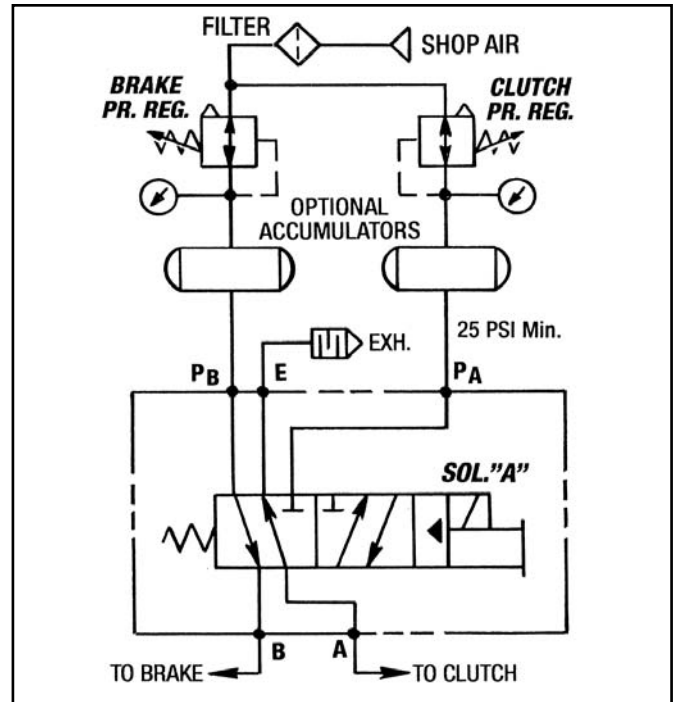

Figure 4 - 2PI-3/8 Control Valve with External Regulators
3. The optional accumulators should be used for quick response, particularly if the air line loss and the nature of the air supply is such that recovery is slow. Accumulators can only be used in pneumatic systems where the pressure regulators are installed before the accumulators as shown in *Figure 4* for the 2PI-3/8 Control Valve. Size the accumulator to be at least 10 times the air required per engagement. (See Specification Chart in the appropriate Service Manual.)